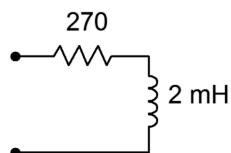

Figure 2.2
3. Determine the impedance of the circuit of Figure 2.2 for a 10 kHz sine.
4. Determine the impedance of the circuit of Figure 2.2 for a 50 kHz sine.